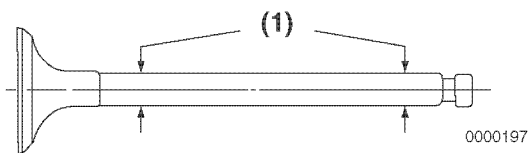

Figure 6-16
Use a micrometer to measure the valve stem diameter. Measure the valve stem near the combustion end and near the opposite end (**Figure 6-16, (1)**). Record the measurements. See *Intake / Exhaust Valve and Guide on page 6-6 for the service limit*.